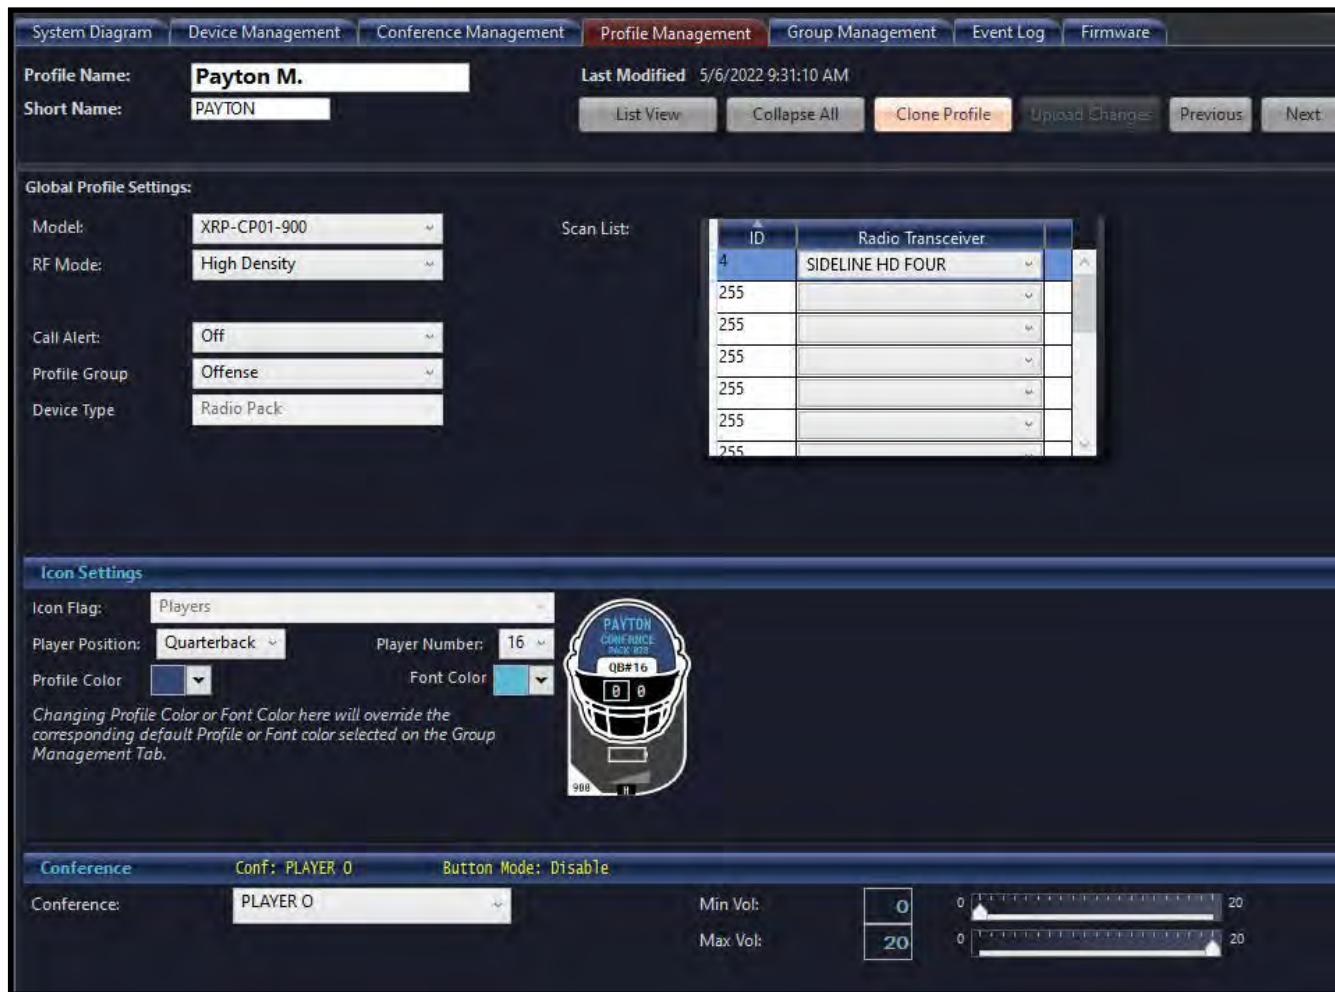

Figure 153: CoachComm X-System Player Profile Example
3. Customize the Player Position and Number in the Icon Settings. See Figure 153 for an example of an CoachComm X-System Player Profile.